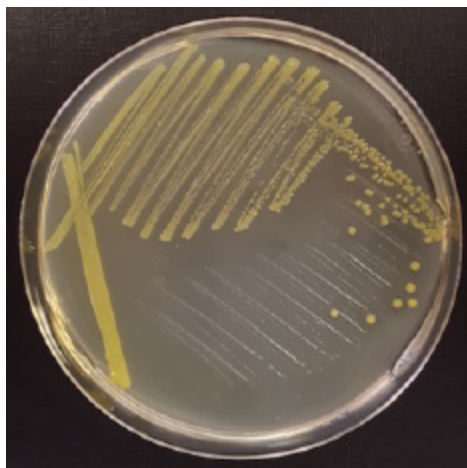

Figure 4.0-4. *Microbacterium foliorum* growing on an agar plate.
M. foliorum colonies are tan to yellow in color, smooth and glossy (Figure 4.0-4). When incubated for prolonged periods, or when grown at room temperature, the color of the colonies are a brighter yellow. A liquid culture of *M. foliorum* inoculated from a single colony will take 24 hours to form a saturated liquid culture, exhibiting a tan to yellow color, which intensifies with prolonged incubation or when grown at room temperature. The strain you will work with, *M. foliorum*, is not inhibited by the antifungal cyclohexamide. Therefore, cycloheximide can be added to the growth media to prevent other microorganisms from growing in your cultures.